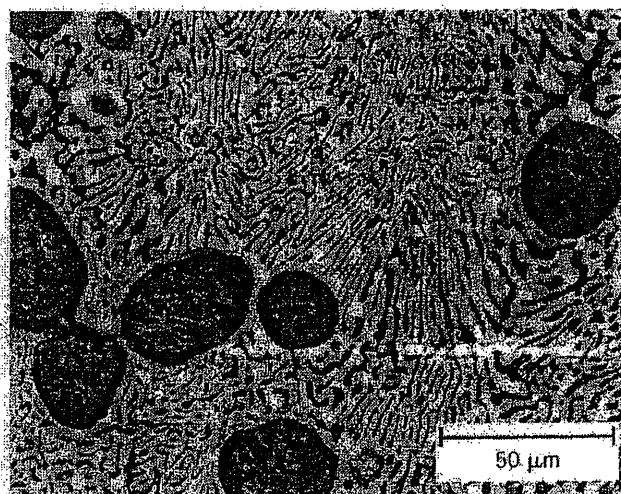

Fig.3b
- (a) If the micrograph in fig. 3b reveals the microstructure of a Pb-Sn alloy containing 80% of Sn, what is the phase shown as dark circular area? How much % of Sn does this phase contain? Determine the mass fraction of this phase. (8%) (b) What do we call the phase consisting of lamellar dark and bright layers? How much % of Sn does this phase contain in average? (4%) (c) Continued from (b), what is the phase shown as the bright area? How much % of Sn does this phase contain? Determine the mass fraction of this phase. (8%) (e) Which area is the pro-eutectic phase? What is the advantage of a nearly eutectic Pb-Sn alloy applied extensively in the electronic industry? (5%)